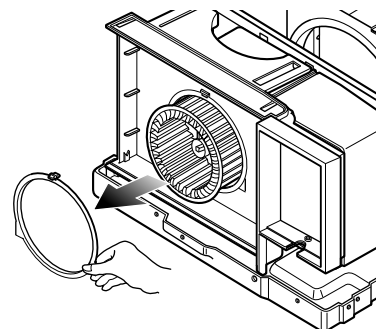

Figure 6
12. Pull out the hook of orifice by pushing the tabs and remove it. (See Figure 6)